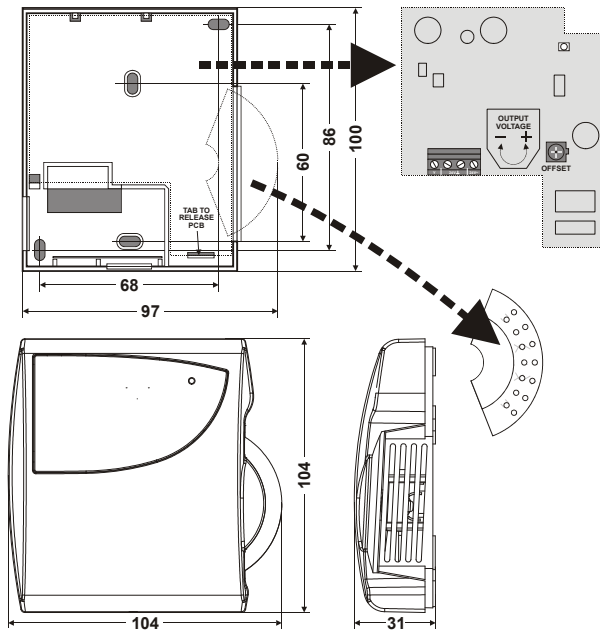

Fig. 3. Dimensions, mounting holes (mm)
Weight /Dimensions	approx. 125 g / see Fig. 3
2. Mount the sensor onto the wall outlet box or bore wall holes (see Fig. 3) using appropriate screws.
- b) Insert wire in required terminal location (see Fig. 3) and tighten the screw to complete the termination.